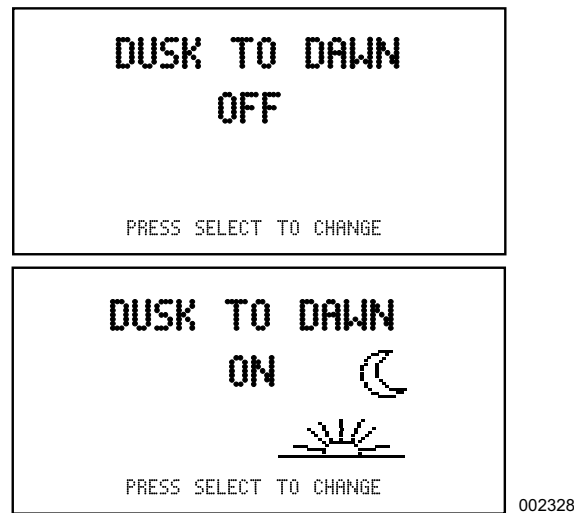

Figure 2-12. Dusk to Dawn Screen
See Figure 2-12. The Line Amperage screen displays the AC output amperage produced by the generator in Amps (A). The load balance for each line (L1 and L3) is displayed in both numerical and graphical form. It is important to maintain a balanced load distribution between lines for optimum generator performance.
See Figure 2-12. The Generator screen displays the average line voltage, frequency (in Hertz), and power factor for the generator while in operation.
See Figure 2-12. The Dusk to Dawn screen enables or disables the “dusk to dawn” function. This function uses a photo sensor to detect the surrounding light level, automatically starting the engine and turning the lights on at dusk. The engine will run and the lights will remain illuminated until dawn.